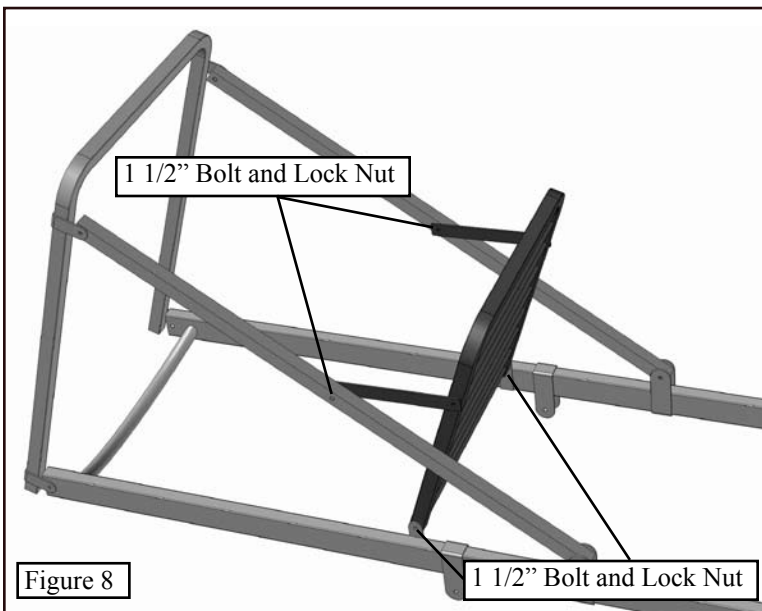

Figure 8
Step 4. Attach the Platform Support bars to the pre-punched holes in the Support Tubes (**Figure 8**). Use two 1 1/2" bolts with lock nuts. Run the bolts from the inside out to put the bolt on the outside of the stand.
Step 5. Attach the Platform to the welded tabs on the Top Support. Use two 1 1/2" bolts with lock nuts as shown in **Figure 8**.